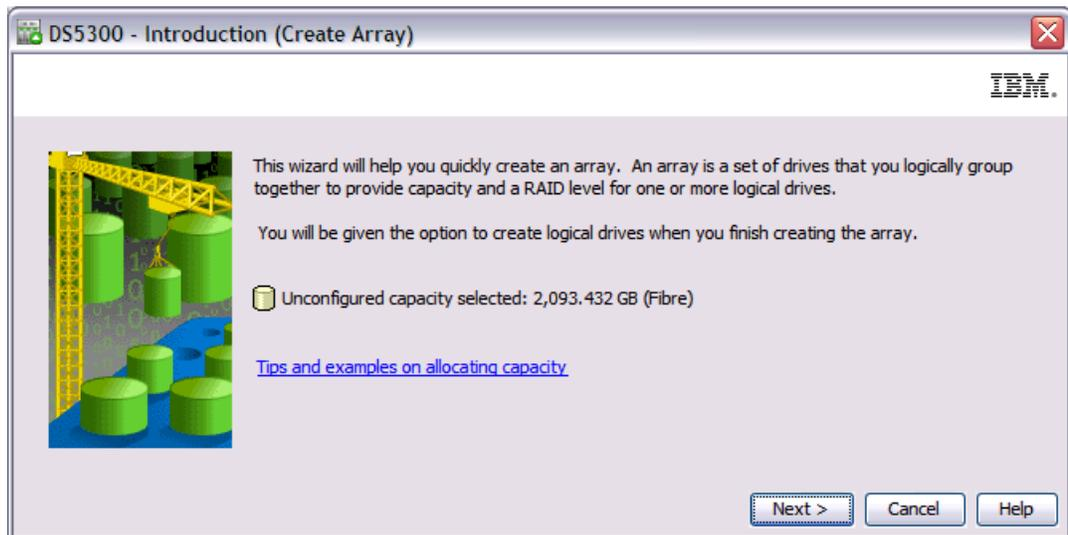

Figure 3-9 Create logical drive
1. Right-click the unconfigured capacity in the Subsystem Management window and select **Create Logical Drive**. Click **Yes** on Array required (you get it when create first logical drive of the array only) and the wizard for creating the logical drives starts. The first window of the wizard is an introduction to the process, as shown in Figure 3-9. Read the introduction and then click **Next** in order to proceed. We present the best practices during the array creation process.